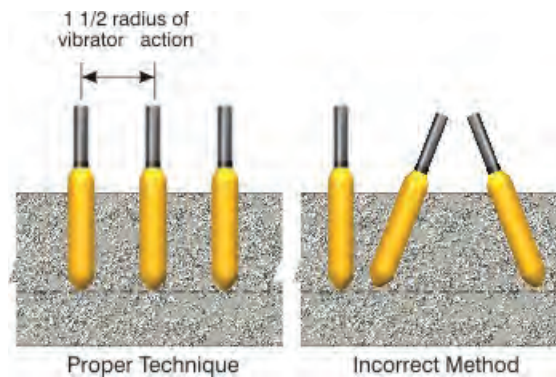

Figure 8.4 – Vibrator head placement
- Insert vibrator vertically and let it sink as **quickly** as possible under its own weight to the desired depth, as illustrated in Figure 8.4 below.